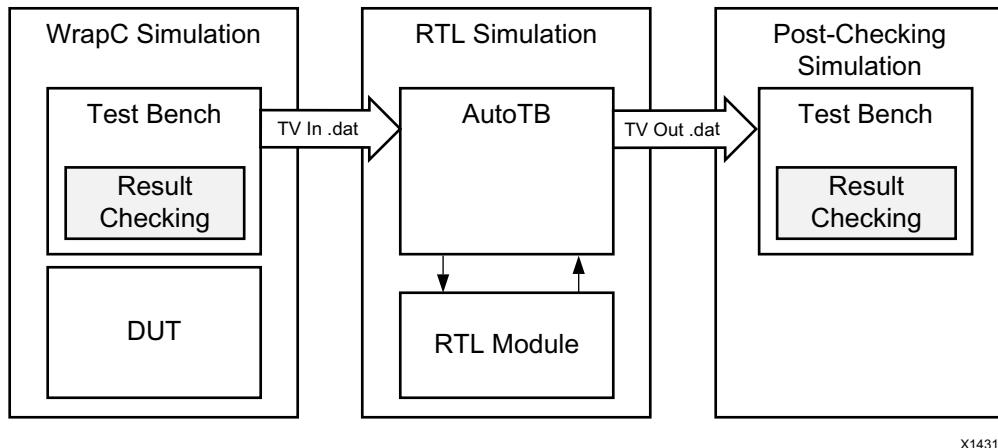

Figure 1-77: RTL Verification Flow
C/RTL co-simulation uses the C test bench to automatically verify the RTL design. The verification process consists of three phases, shown in Figure 1-77.
- Reduce Disk Space: The flow shown Figure 1-77 in saves the results for all transactions before executing RTL simulation. In some cases, this can result in large data files. The `reduce_diskspace` option can be used to execute one transaction at a time and reduce the amount of disk space required for the file. If the function is executed N times in the C test bench, the `reduce_diskspace` option ensure N separate RTL simulations are performed. This causes the simulation to run slower.